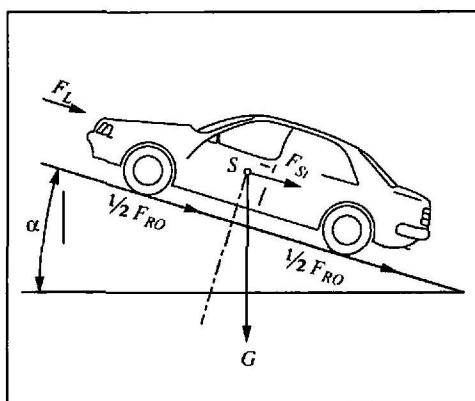

FIGURE P2.41 Running resistances
69. **Hybrid vehicle.** Problem 23 in Chapter 1 discusses the cruise control of serial, parallel, and split-power hybrid electric vehicles (HEVs). The functional block diagrams developed for these HEVs indicated that the speed of a vehicle depends upon the balance between the motive forces (developed by the gasoline engine and/or the electric motor) and running resistive forces. The resistive forces include the aerodynamic drag, rolling resistance, and climbing resistance. Figure P2.41 illustrates the running resistances for a car moving uphill (*Bosch, 2007*).